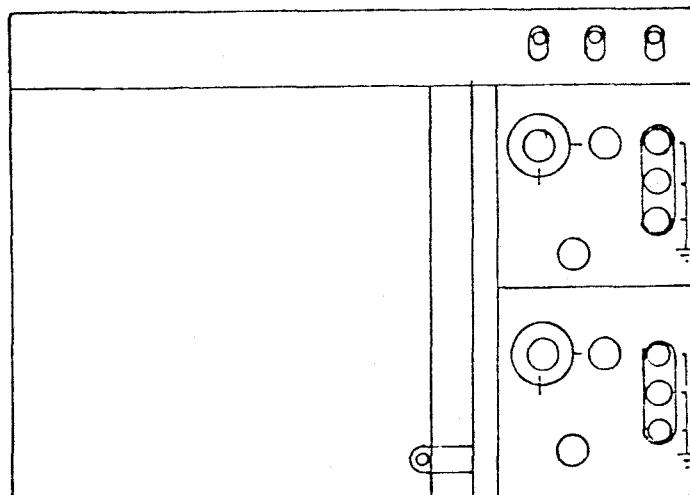

Figure 11
7. Push the FUNCTION SELECTOR BUTTON once again to select the next calibration function, Y=0; X=1. The plotter pen should move to the lower right hand corner of the paper or field of interest as demonstrated by Figure 11 below.